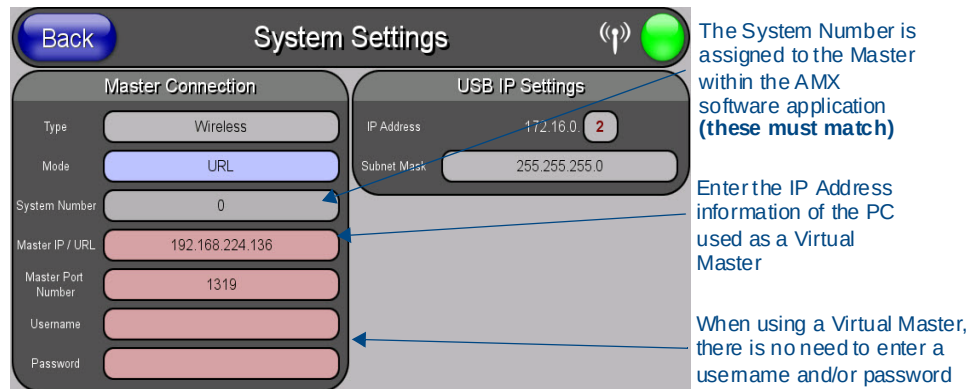

FIG. 35 Sample System Settings page (for Virtual Master communication)
11. Select **Protected Setup** > **System Settings** to open the *System Settings* page (FIG. 35).